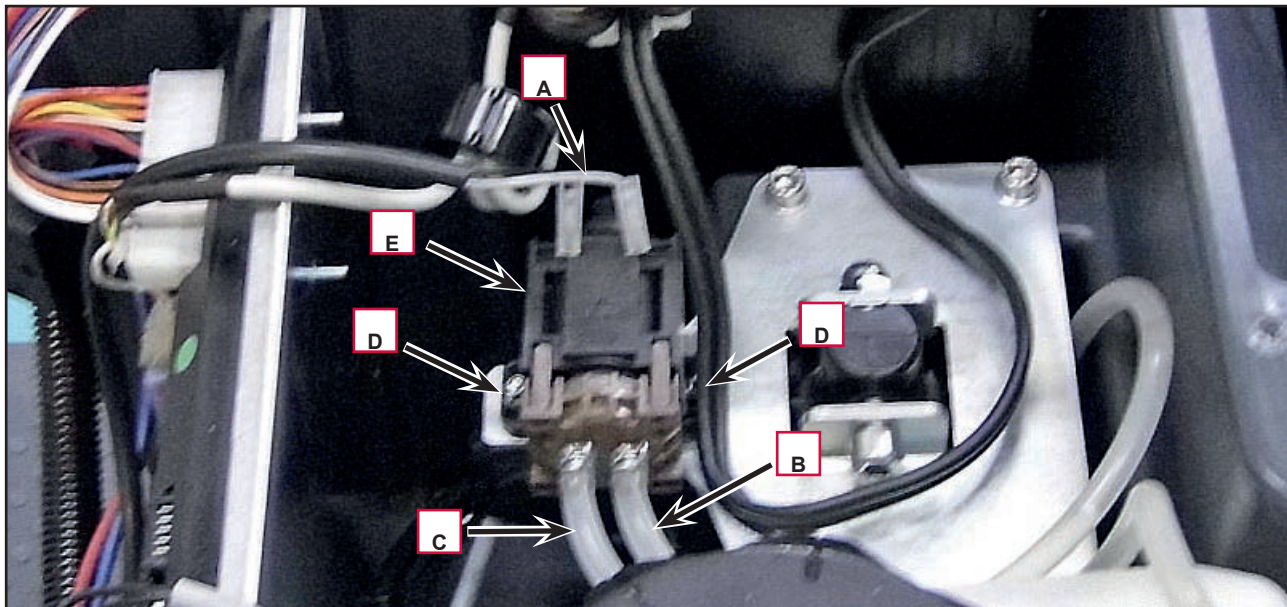

Figure 12
4. Disconnect the connectors (A) (Figure 12), the tank hose (B) and brush hose (C).
5. Unscrew the two screws (D) and remove the detergent pump (E).